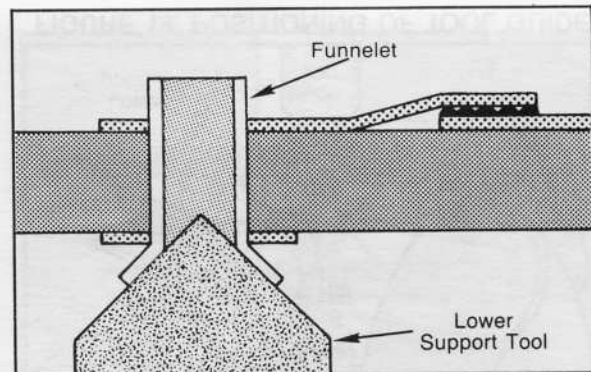

FIGURE 10. POSITIONING TRAK-PAD TRACK
STEP 8—Position the hole of the previously prepared TRAK-PAD Track (Steps 5 and 6) over the Funnelet/Eyelet barrel (see Figure 10). (**NOTE:** The TRAK-PAD may be taped into position with existing conductor before you swage set the Funnelet/Eyelet).
STEP 14—Insert component leads and solder in place (see Figure 10). (**NOTE:** Additional soldering may be required on opposite side of double-sided circuit boards).